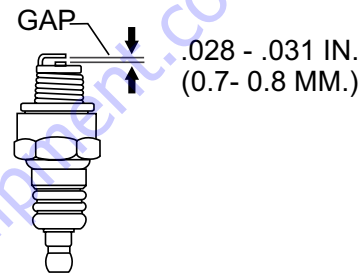

Figure 23. Spark Plug Gap
- Remove and clean spark plug (Figure 23) with a wire brush if it is to be reused. Discard spark plug if the insulator is cracked or chipped.